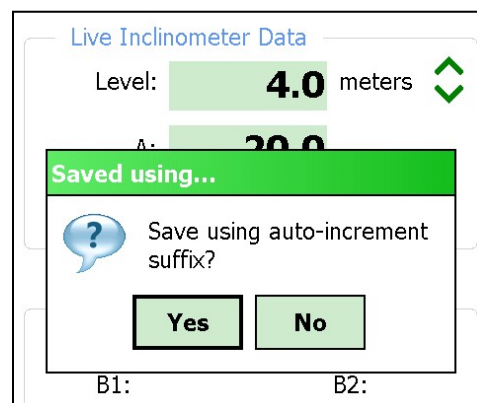

Figure 50 - Auto Increment Save
- If **Yes** is selected, you then will be given the choice of saving with the auto-increment suffix on the standard filename (Figure 50). Selecting Yes again causes the save operation to be carried out using a filename of the form: *[Hole_Name][3 digit AutoIncr_Suffix].GKN*